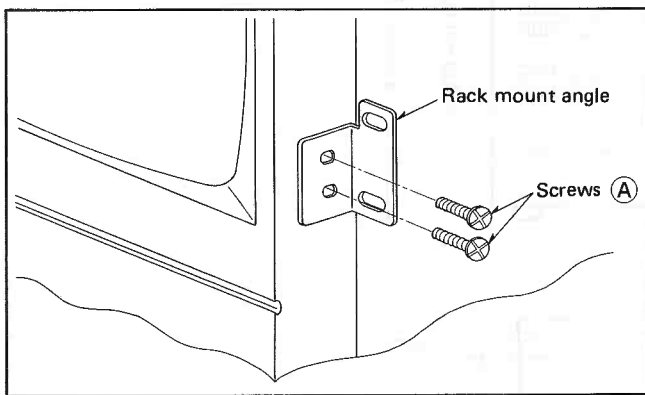

Fig. 1
1. Mount and secure both the right and left rack mount angles (attached to BT-D1910Y) on the unit using two screws (A) each. (Fig. 1)